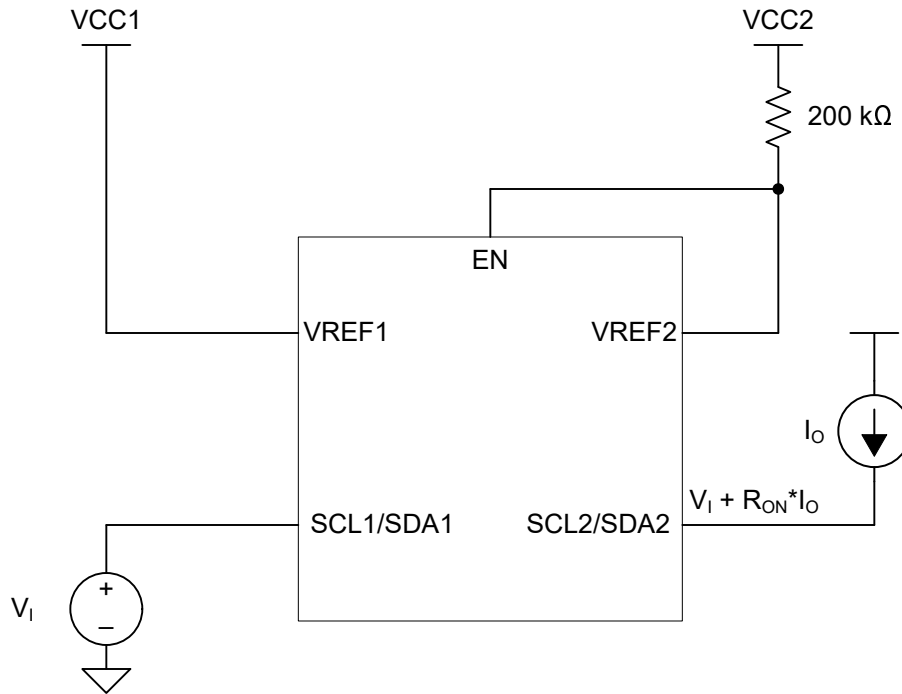

Figure 7-3. Application Setup for R_{ON} Delay
(5) Measured in application connected current source configuration only. See Figure 7-3